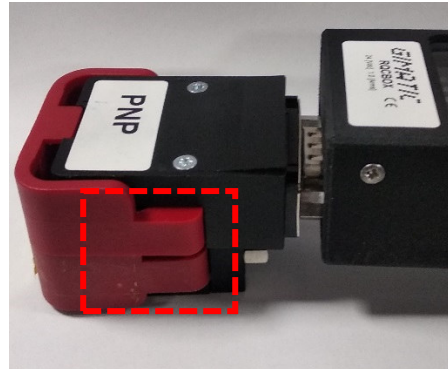

Figure 20
- Place the TAG (RBQC) and the reader (RAQC/RAQCN) as showed in below picture (Figure 20).